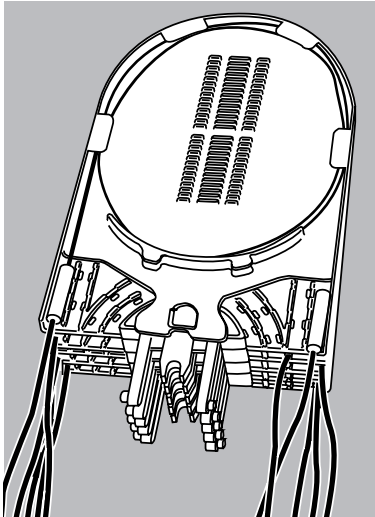

FIGURE 13
13. Prepare all “express” and “drop” loose buffer tubes and fibres to be spliced into additional SLIDE-N-LOCK splice trays following steps 3 through 12. (Figure 13)